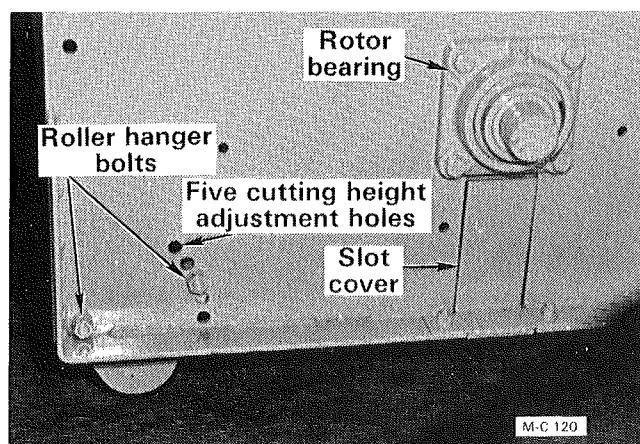

Figure 4
3. Install a $\frac{1}{2}$ -13 x $1\frac{1}{2}$ " (Grade 5) hex-head capscrew thru the hanger into the lower rear hole on both sides of the mower body, see Figure 4. Secure with lockwasher and hex-nut, do not tighten.
head capscrew thru the hanger into the adjustment hole on both sides of the body, see Figure 4. These capscrews must be in the same hole on each side. Secure with lockwasher and hex-nut.